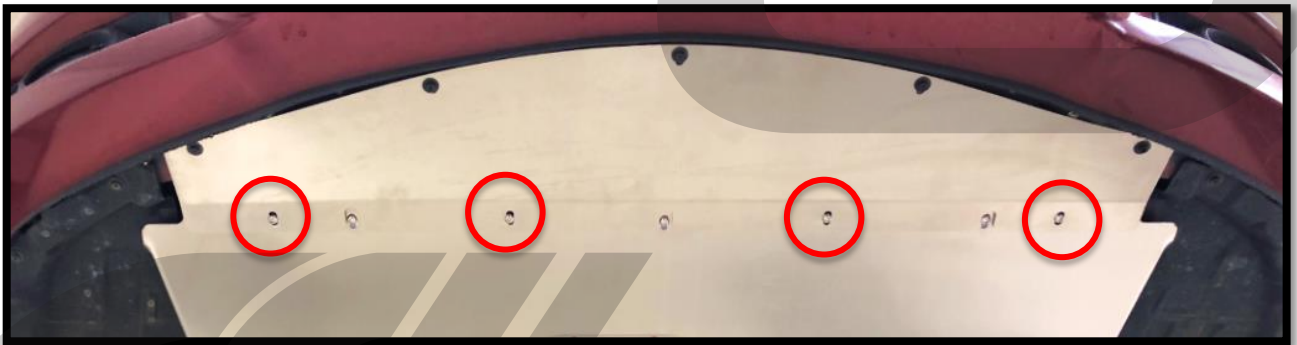

Figure 3c
- e) Connect the two sections of the CorkSport Skid Plate together by loosely installing the four (4) M6x1.0x16mm button head bolts with M6 washers into the U-nuts installed in step 3b. These bolts/washers are circled in red in **Figure 3c**.